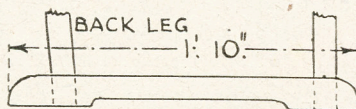

Fig. 4—Shape for ground rail
If the ground rail is adopted, then the tenon will be 2ins. deep, and will run down, as in Fig. 4. The same remark applies to the front upright (A).
cut edges being nicely rounded and glasspapered smooth. Fig. 4 shows the method of framing each pair of legs into a ground rail. The latter is 2ins. deep by 1½ins. wide; that is, to the thickness of the leg. The legs are 1½ins. square.